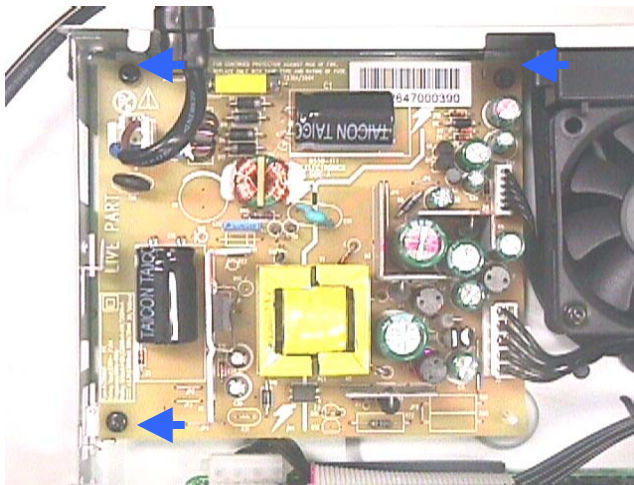

Figure 7 - PSU remove mounting screws
- 1) Remove 3 screws to loosen the PSU Board 1004 as shown in Figure 7.